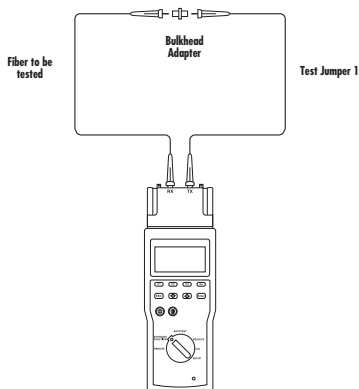

**Figure 6-6. Setting the reference in Manual Multimode Loopback mode.**
4. Connect the test jumper between the RX and TX ports (see Figure 6-6).